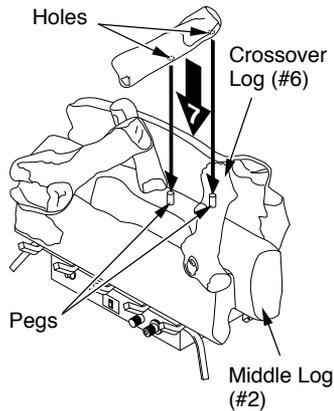

Figure 31 - Installing Crossover Log (#7)
7. **For CCL3930PR/NR only,** locate holes on the bottom of crossover log (#7). Slide onto the pegs located in crossover log (#6) and middle log (#2). See Figure 31.